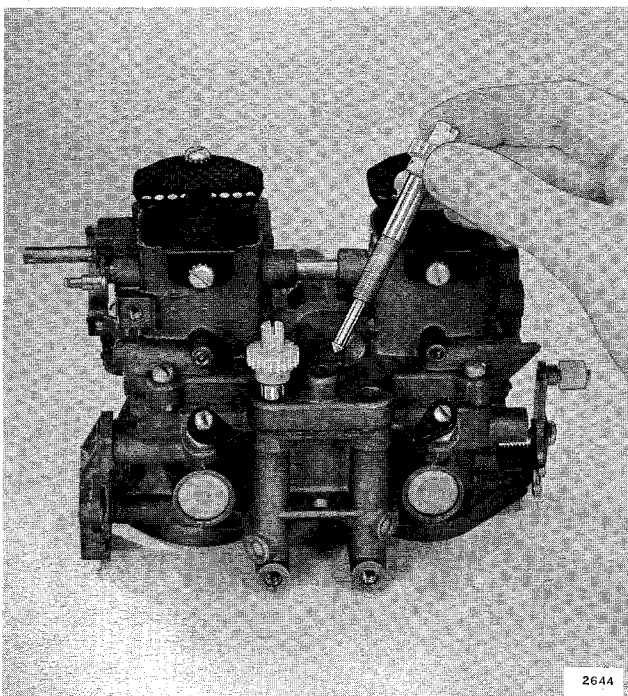

Figure 3-12. Removing High-Speed Valves
c. Remove control gear cover, high-speed valves, and detent. See Figure 3-12.